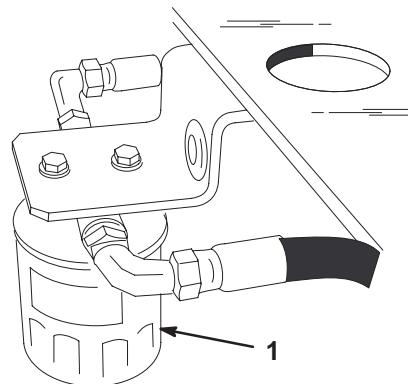

Figure 45
- Place drain pan under filter, remove the old filter and wipe the filter adapter gasket surface clean (Fig. 45).